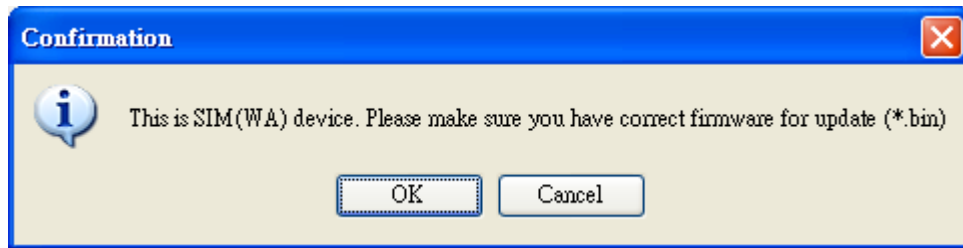

Figure E-1
1. Select an SIM(WA) device and select <Update Firmware> in the menu for SIM(WA) Firmware Re-flashing. A screen will display as shown in Figure E-1.